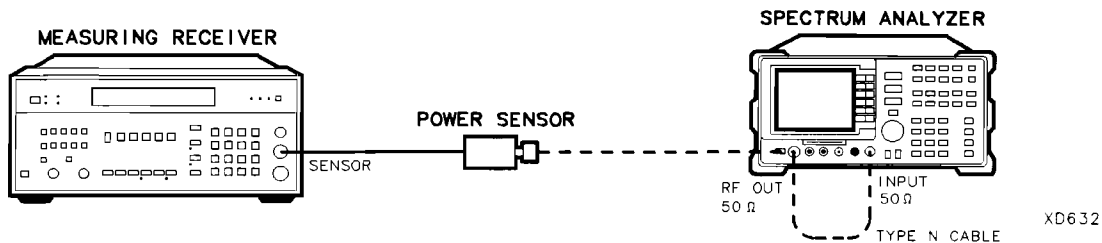

Figure 2-88. Absolute Amplitude Accuracy Test Setup
1. Connect the Type N cable between the RF OUT 50 Ω and INPUT 50 Ω connectors on the spectrum analyzer. See Figure 2-88.
5. Disconnect the Type N cable from the RF OUT 50 Ω and connect the 100 kHz to 2.9 GHz power sensor to the RF OUT 50 Ω. See Figure 2-88.
6. On the spectrum analyzer, press **SRC POWER ON OFF** (ON), -20 **dBm**,